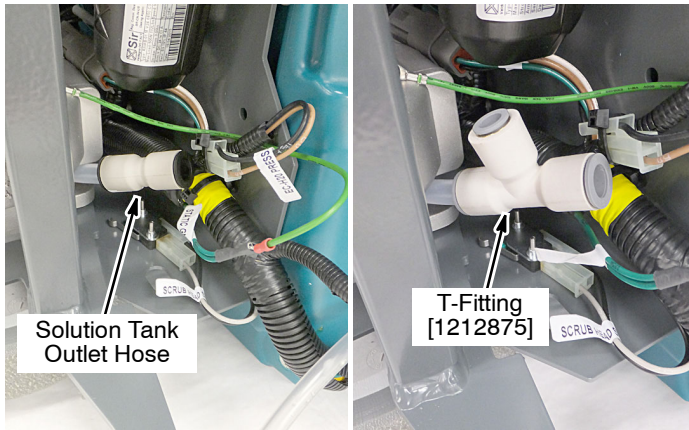

Fig. 30
14. At the scrub head location, remove the straight fitting from the solution tank outlet hose. Install T-fitting (Figure 30).